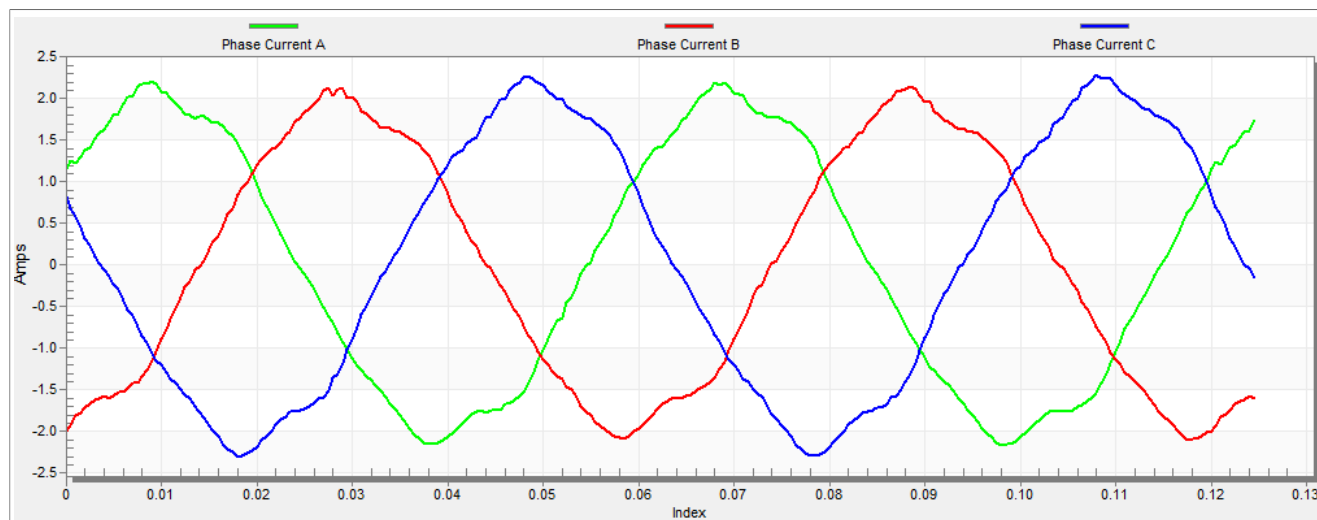

Figure 22. Phase currents
5. The optimal ratio for the V/Hz profile can be found by changing the V/Hz factor directly using MCAT input "Scalar V/Hz factor ratio". The shape of the motor currents should be close to a sinusoidal shape (Figure 22).